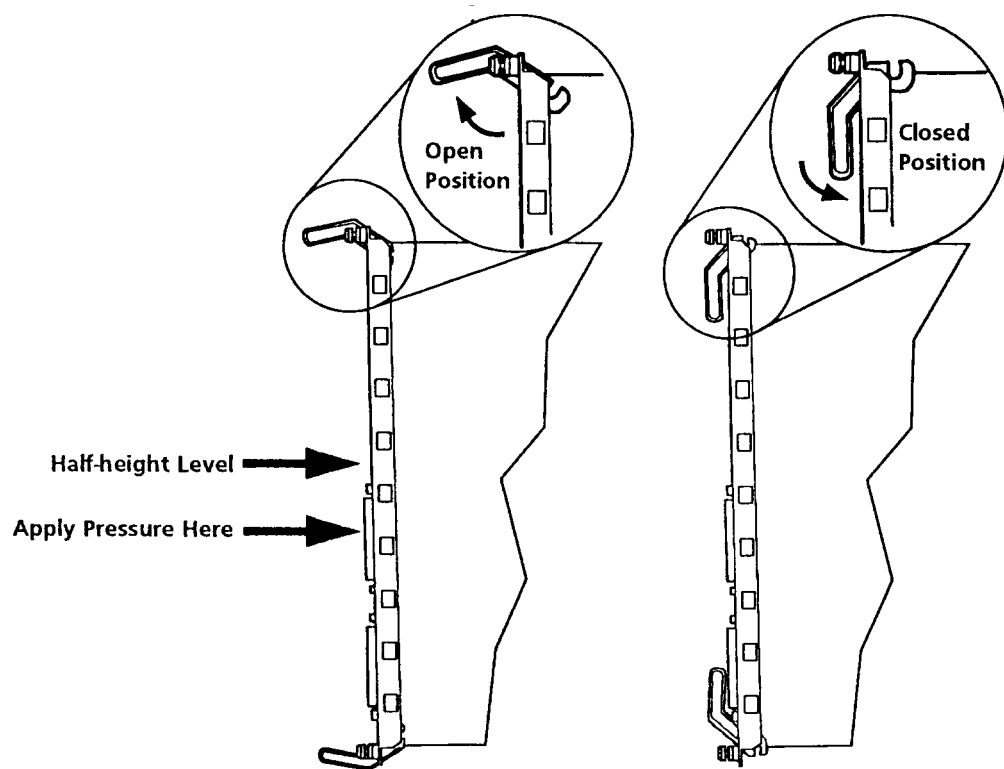

Figure 2-2. ONcore Module Ejectors
2. Insert the 6416SW module into slots 9 and 10 (or slots 11 and 12 in A17 models) of the hub by matching the top and bottom board guides as you slide the module cleanly into place (by pressing evenly on the top and bottom of the faceplate). Do not attempt to push the module all the way into the hub until you have verified that the top and bottom module ejectors are OPEN (see Figure 2-2 on page 2-4.)